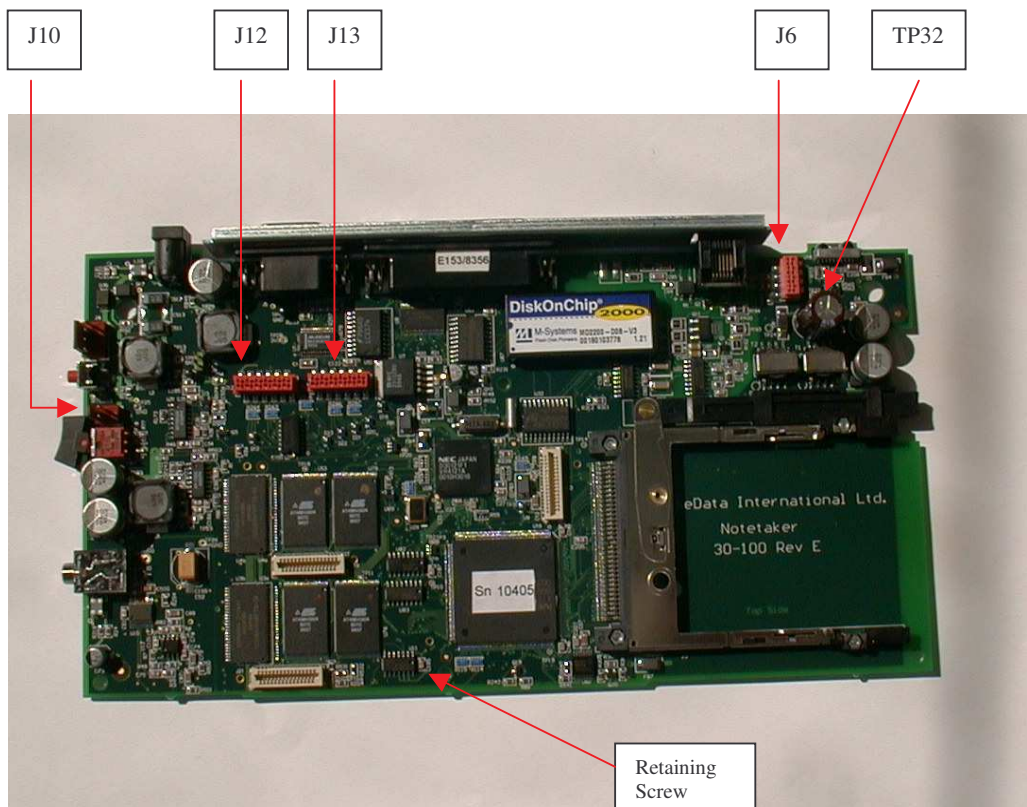

Figure 16 - BrailleNote Rev E Motherboard
- Before removing the battery connector check the voltage on test-point TP32. See Figure 16 for the location of TP32. If the voltage on TP32 is greater than 1V then wait for the voltage to discharge to less than 1V before proceeding.
- Unplug the keyboard connectors from **J12** and **J13**. See Figure 16 for location of **J12** and **J13**.
- Unplug the speaker connector from **J10**. See Figure 16 for location of **J10**.
Unplug the 8-way Braille display connector from **J6**. See Figure 16 for location of **J6**
- Connect the keyboard connectors on J12 and J13 as shown in Figure 16
- Connect the speaker connector on J10 as shown in Figure 16
- Connect the Braille display 8-way connector on J6 as shown in Figure 16
- Connect the battery supply connector on J8 as shown in Figure 16